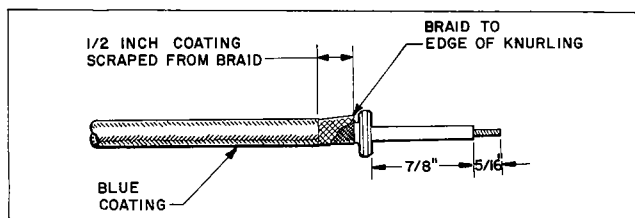

Figure 4-2. Ferrule Position Under Braid
- c. Push back braid and thread a new ferrule over wire and under braid until braid covers knurling. See figure 4-2.